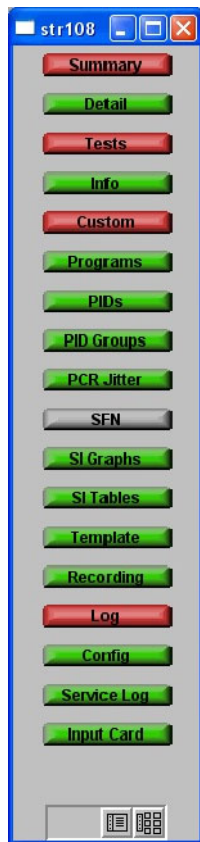

Figure 32: Stream view button bar
2. Select Config from the Stream view button bar (see Figure 32).